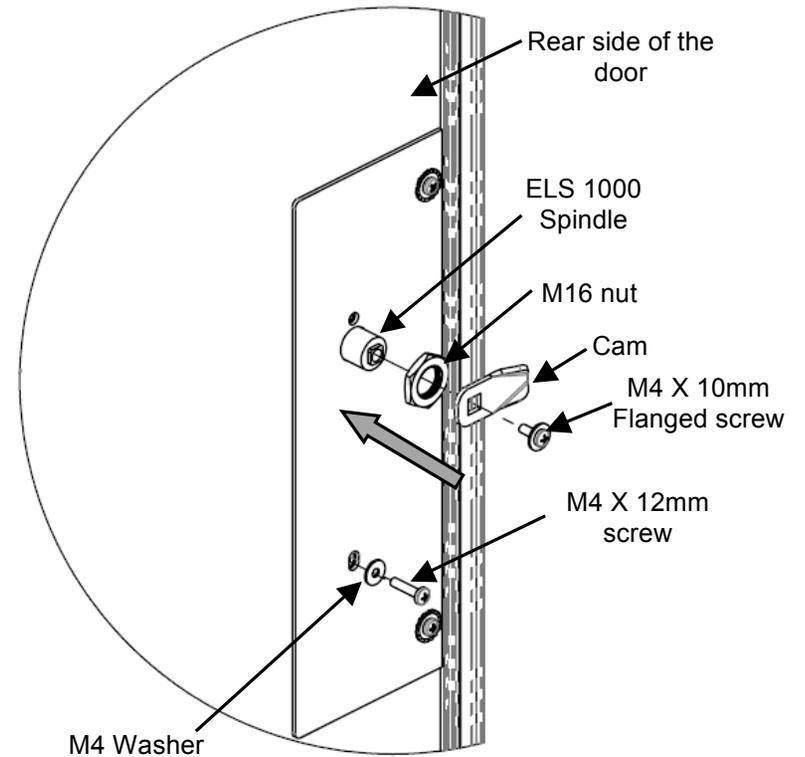

Fig. 5
4. Secure the ELS1000 lock to the rear plate with the M4 X 12mm screw for ELS1000 Lock (Fig. 5).
5. For ELS1000 place the M16 Nut over the lock Spindle, push the cam onto the cam Spindle and fasten it with M4 X 10mm flanged screw (Fig.5).